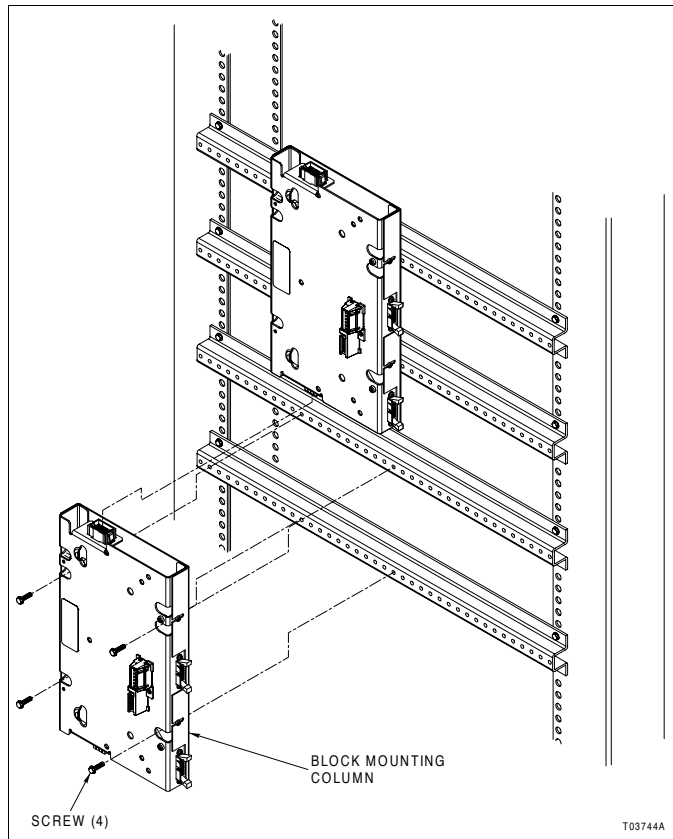

Figure PR2-3. Stacked Column Attachment
- 2. Align the simulation mounting column directly under a previously installed MCL-111 mounting column (Fig. PR2-3).